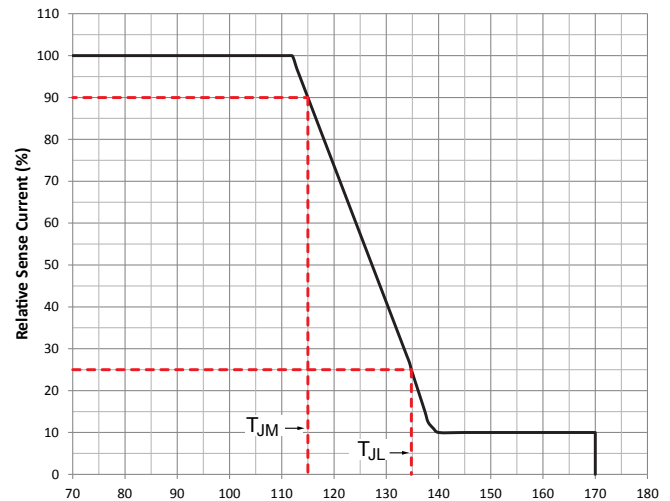

Figure 2. Temperature monitor current reduction.
**Temperature Monitor** A temperature monitor function, included in the A6262, reduces the LED current as the silicon junction temperature of the A6262 increases (see figure 2). By mounting the A6262 on the same thermal substrate as the LEDs, this feature can also be used to limit the dissipation of the LEDs.